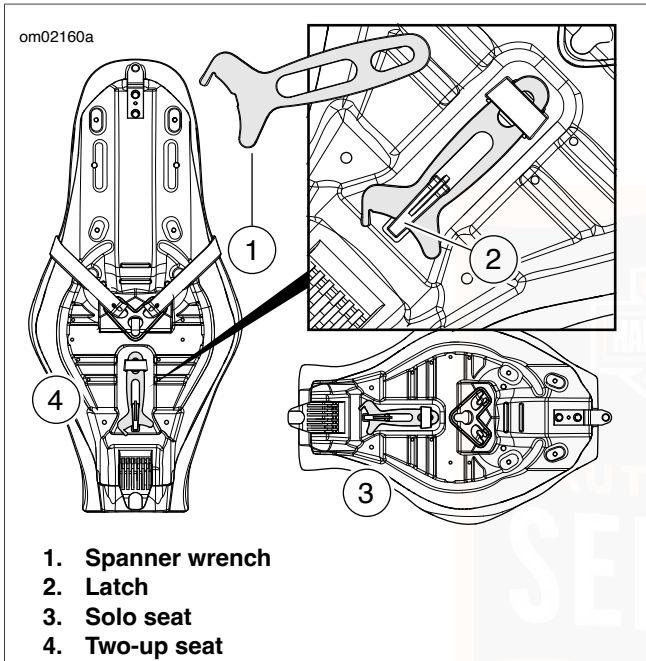

Figure 28. Spanner Wrench Retention Pocket
2. See Figure 28. Lift the latch (2) and slide the spanner wrench (1) from the retention pocket.